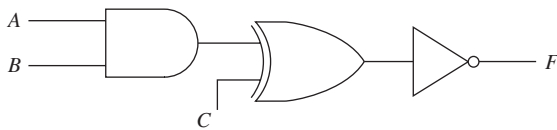

FIGURE P10.43 Circuit for Problem 10.43.
10.43 (A) Find the expression for the output of the logic circuits shown in Figure P10.43.